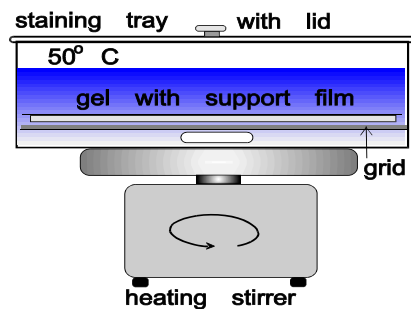

Fig. 4
- **Stain:** 45 min in 200 ml of staining solution (*mix equal amounts of A and B*). Heat (50°C) solution while stirring (Fig. 4). *Suitable steel trays with lids and grids are listed in section 5.*